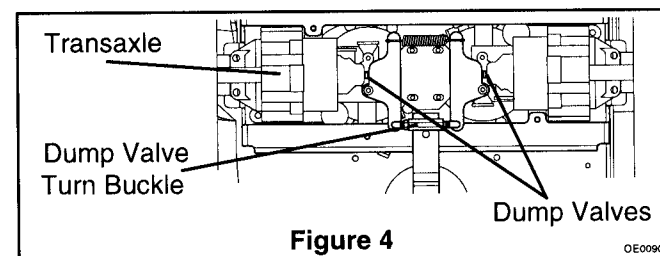

Figure 4
5. When the dump valves are closed, push unit from shipping container onto a level surface. Reverse procedure to open the dump valves. When the dump valves are open unit can be driven (Figure 4).
- Locate the dump valves under the unit, on the back of the transaxles, tighten the jam nut and turn the dump valve turn buckle until it pushes the plates out. As the dump valves move out they will become open. When the dump valves are open fully, the unit can be driven (Figure 4).